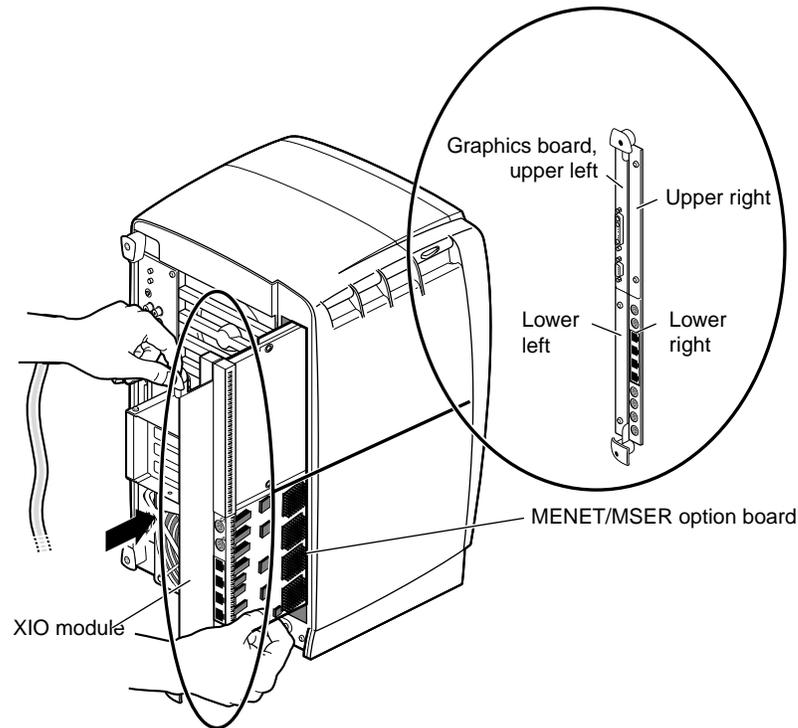

Figure 1-15 Replacing and Orienting the XIO Module
1. Replace and orient the XIO module in the OCTANE workstation. Slide the XIO module into guides on the top and bottom of the workstation, with the graphics board oriented to the upper left. See Figure 1-15.
2. Before you insert the XIO module, make sure the handle portion protrudes from the I/O panels, as shown in Figure 1-15.
If the handles are flush with the I/O panels, the XIO module will stop during insertion. Pull out the handles until the sliding portion of the XIO module looks like that shown in Figure 1-15, and then continue inserting the XIO module.